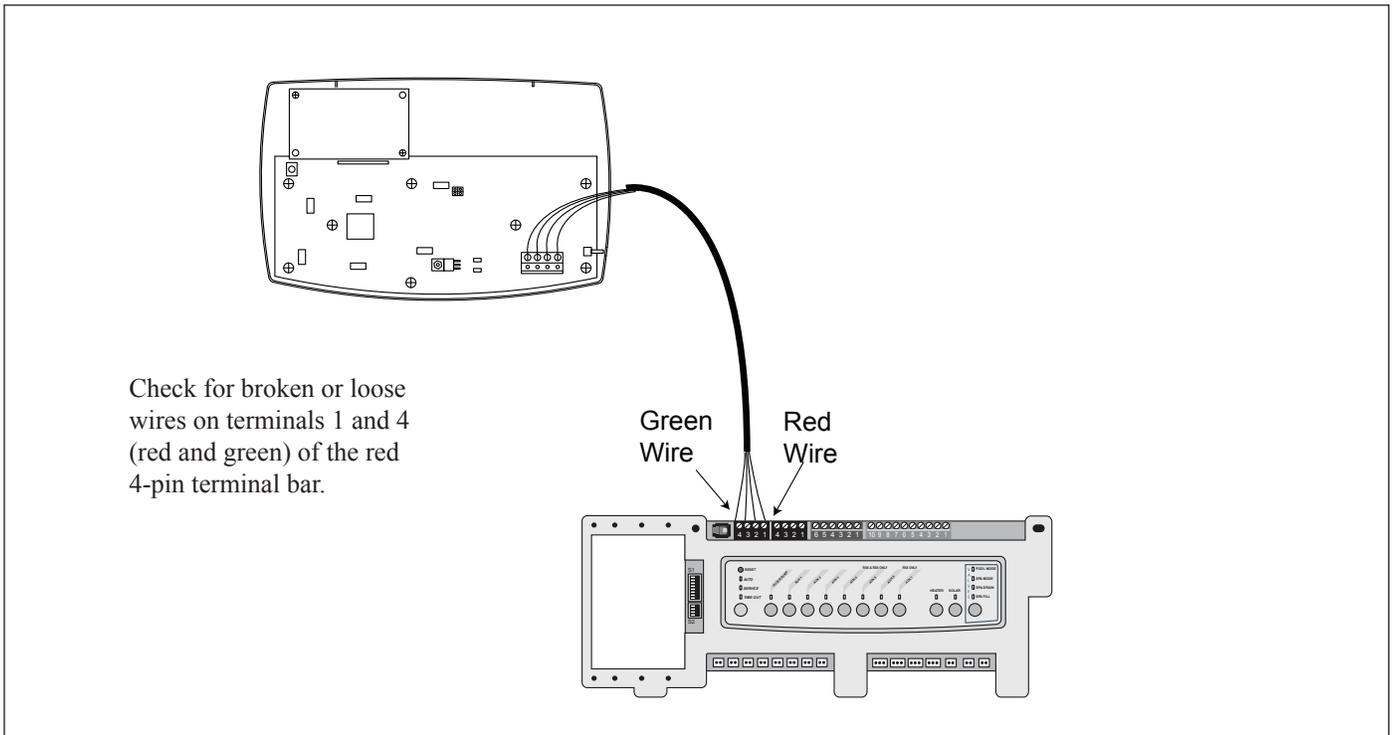

Figure 5. Checking Voltage at Red Terminal Bar
1. At the power center, check the voltage between the red and green wires at the red terminal bar (terminals 1 and 4). See Figure 5. If the voltage is between 8 and 10 VDC and the polarity is correct, but there is less than 7 VDC at the indoor control, check the wires for the following: